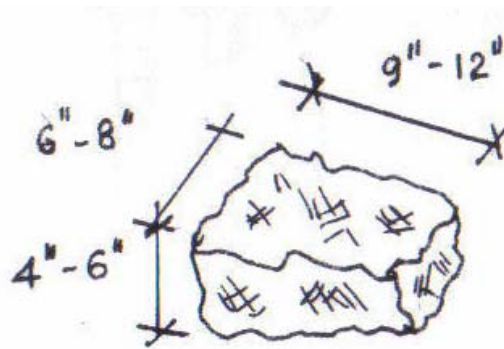

Fig 2 - **Average stone size**
- Made sure that stones for **foundations and walls** delivered to site are reasonably consistent in size (i.e. standard - 9"-12"L x 6"- 8"W x 4"- 6"D) and rejected unsuitable, noticeably undersized stones (See fig. 2)